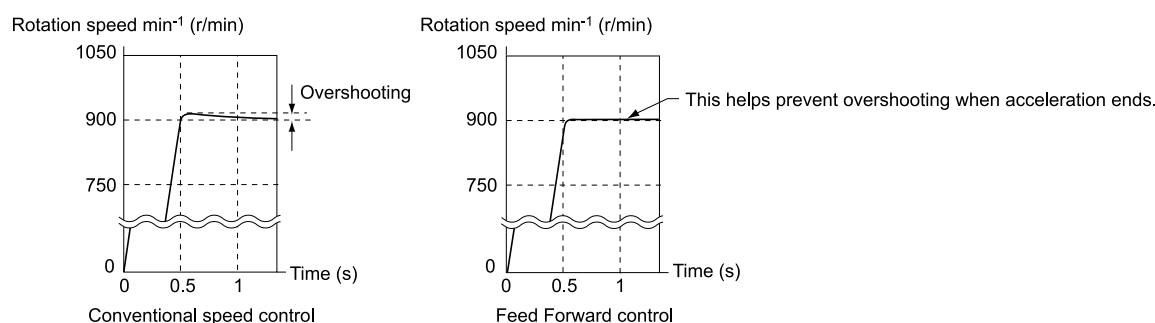
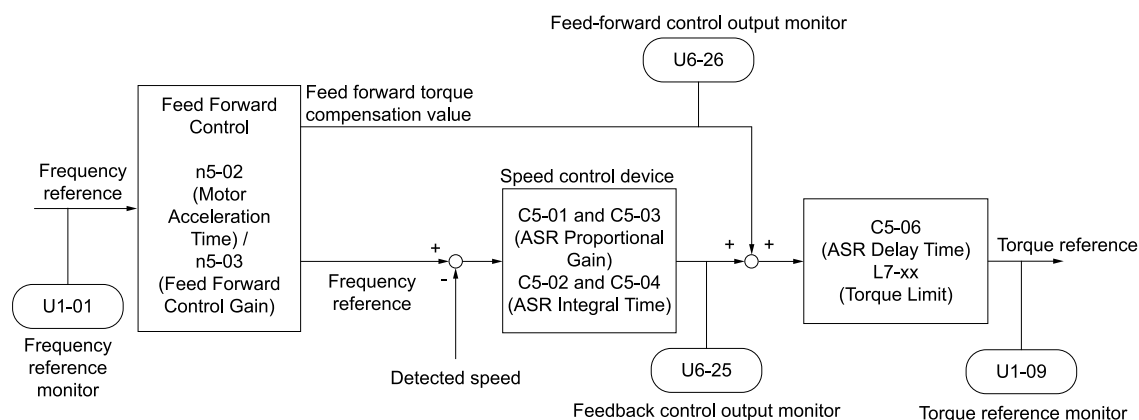

Figure 11.148 Suppress Overshooting with Feed Forward Control
Figure 11.149 Configure Feed Forward Control
Increase the values set in C5-01 and C5-03 [ASR Proportional Gain] to apply feed forward control to machines that have low rigidity and are possible to have hunting and vibration or to machines that have a large quantity of inertia. When you use this function in CLV control, it also helps prevent overshoot. Refer to Figure 11.148 for more information. Refer to Figure 11.149 for more information about parameters related to feed forward control.
- If you cannot do Inertia Tuning, refer to Figure 11.149 and set the parameters related to feed forward control individually.